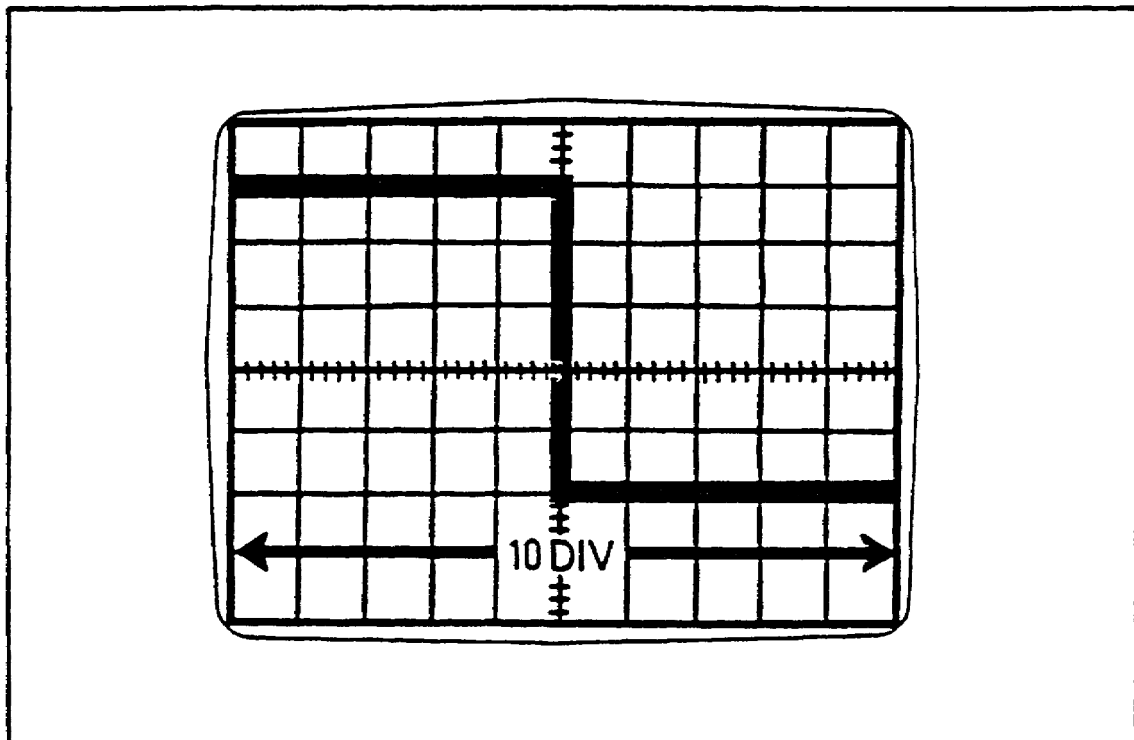

FIGURE 13. CALIBRATED SIGNAL DISPLAY.
Step 3. With a small screwdriver, rotate the SWP CAL control until the displayed waveform of one cycle covers exactly 10 divisions horizontally (figure 13, on the next page).